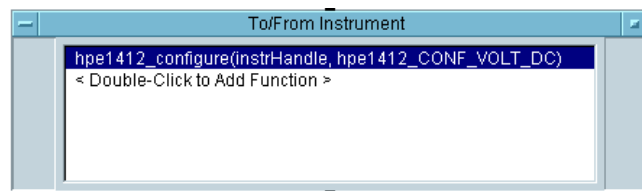

Figure 108 DC Voltage Function in VXIplug&play Object
- 7 Click **OK**. The To/From Instrument object now contains an entry for **hpe1412_configure(instruHandle,hpe1412_CONF_VOLT_DC)**, as shown in Figure 108.